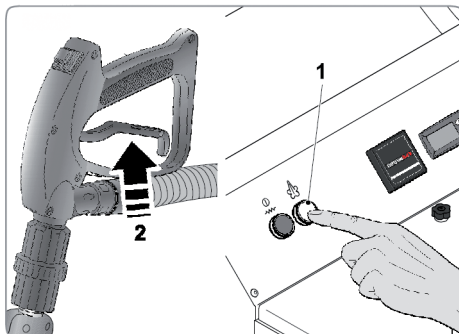

Fig. 20
Press the steam release switch (1 - Fig.20) and the trigger (2) of the pistol grip to deliver steam. When the trigger is released steam delivery stops.